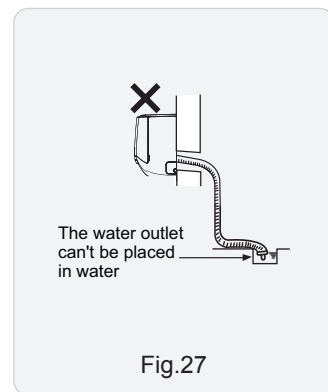

Fig.27
- The water outlet cannot be placed in water in order to drain smoothly. (As show in Fig.27)